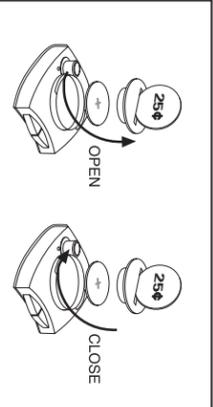

Figure 2
STEP 1 Remove the battery cap from the bottom of the computer using a small coin. See Figure 2.